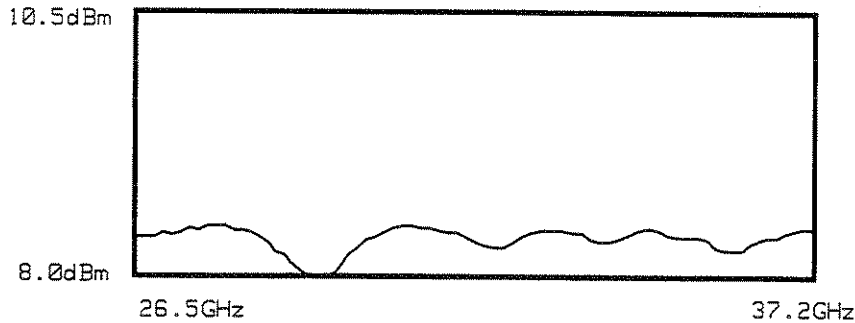

Figure 2-6. Power Flatness Response (26.5 to 37.2 GHz)
10. Slowly tune the frequency from 26.5 GHz to 37.2 GHz while watching the power level readings on the power meter. The power level displayed should not exceed +10.5 dBm. See Figure 2-6.